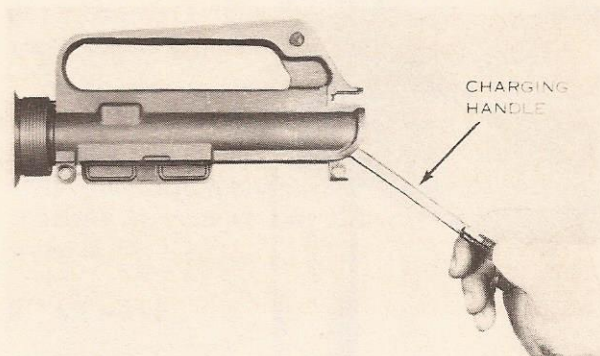

Figure 9. Removing the charging handle.
d. Pick up the upper receiver group; keep the muzzle to the left. Grasp the charging handle, pressing in on the latch, and pull to the rear (fig. 7) to withdraw the bolt carrier from the receiver. Pull the bolt carrier clear of the receiver (fig. 8). When the bolt carrier is removed, the charging handle will fall free of its groove in the receiver (fig. 9). Place the receiver on the table.